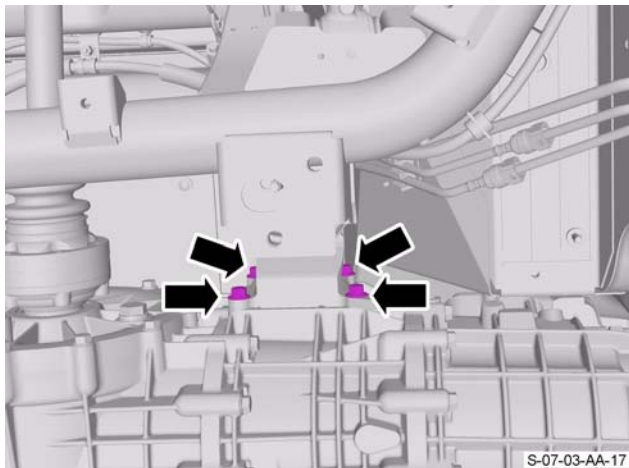

Figure 14
37. Remove and discard the four bolts that attach the right side transaxle mount bracket to the transaxle. (see Figure 14).